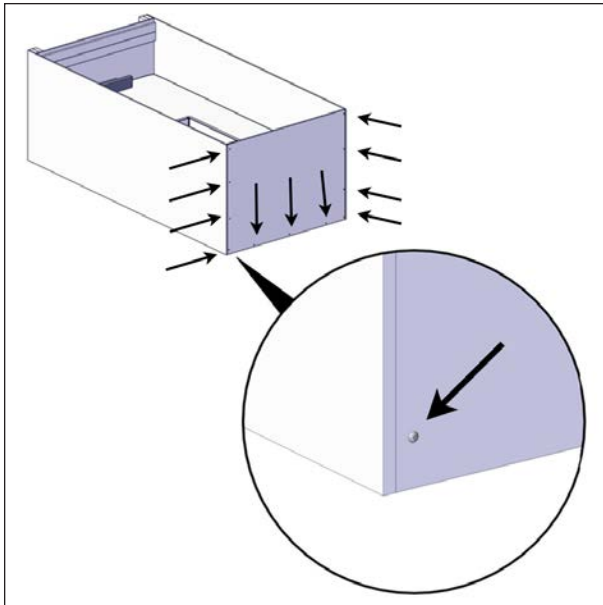

FIGURE 26: TOP BOARD REMOVAL
17. Unscrew the Robertson #8 x 1.5" screws (four on each side and three at the bottom) holding the top of the crate. Then, remove the top of the crate, see Figure 26.